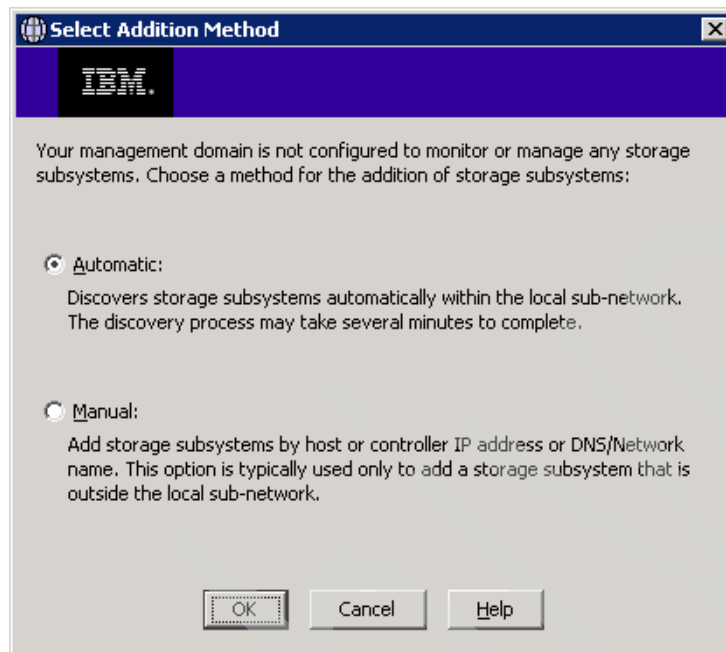

Figure 5-21 Select Addition Method
1. The Select Addition Method window appears, as shown in Figure 5-21.